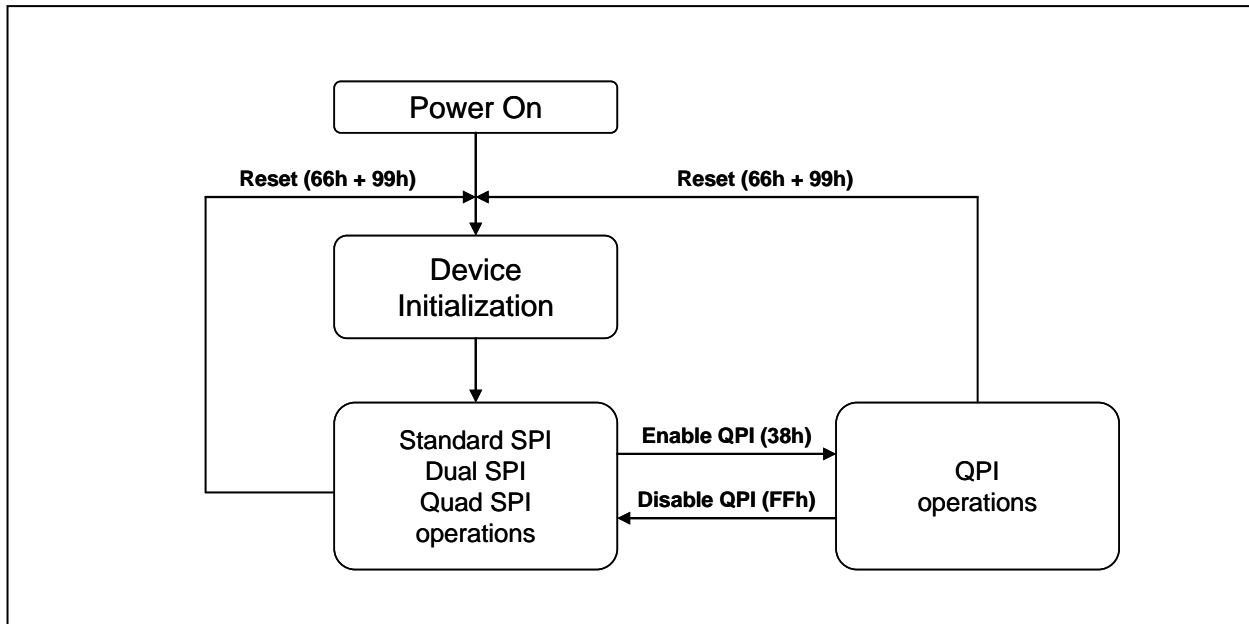

Figure 3. W25Q32DW Serial Flash Memory Operation Diagram
The W25Q32DW supports Quad Peripheral Interface (QPI) operations only when the device is switched from Standard/Dual/Quad SPI mode to QPI mode using the “Enable QPI (38h)” instruction. The typical SPI protocol requires that the byte-long instruction code being shifted into the device only via DI pin in eight serial clocks. The QPI mode utilizes all four IO pins to input the instruction code, thus only two serial clocks are required. This can significantly reduce the SPI instruction overhead and improve system performance in an XIP environment. Standard/Dual/Quad SPI mode and QPI mode are exclusive. Only one mode can be active at any given time. “Enable QPI (38h)” and “Disable QPI (FFh)” instructions are used to switch between these two modes. Upon power-up or after a software reset using “Reset (99h)” instruction, the default state of the device is Standard/Dual/Quad SPI mode. To enable QPI mode, the non-volatile Quad Enable bit (QE) in Status Register-2 is required to be set. When using QPI instructions, the DI and DO pins become bidirectional IO0 and IO1, and the /WP and /HOLD pins become IO2 and IO3 respectively. See Figure 3 for the device operation modes.